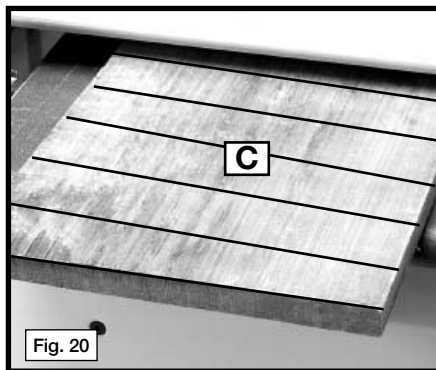

Fig. 20
- To do a quick check, draw pencil lines (C) Fig. 20 extending across the width of the board at several places along the length of the board. **DO NOT ADJUST THE TABLE HEIGHT.**